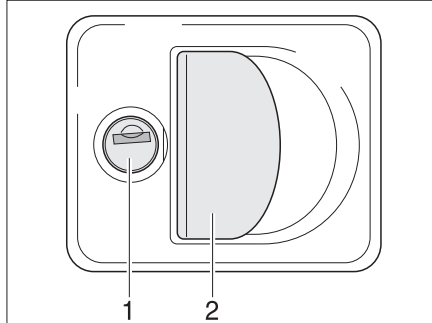

Fig. 30 Flap lock with recessed handle
- Insert the key into the locking cylinder (Fig. 30,1) and turn a quarter turn. The flap lock is unlatched.
- Pull on the lock handle (Fig. 30,2). The external flap is open.